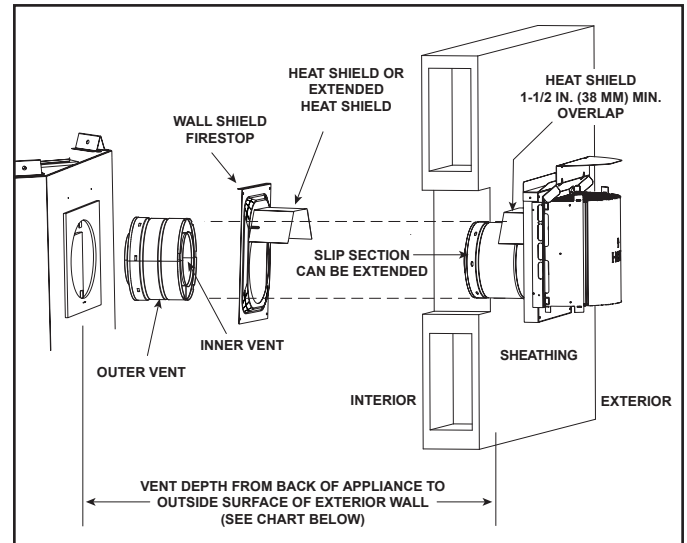

Figure 7.14 Venting Through the Wall
- **DO NOT** remove the heat shields attached to the wall shield firestop and the horizontal termination cap (shown in Figure 7.14).